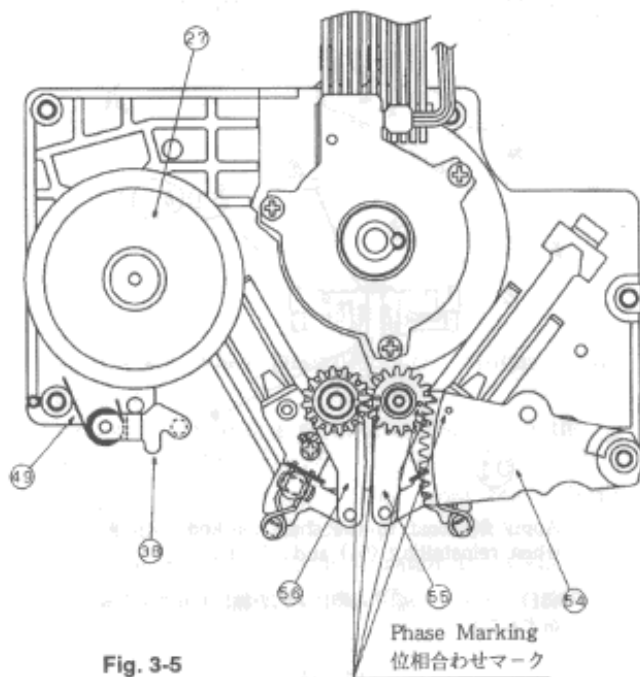

Fig. 3-5
- 1) ③c ワッシャを外し、⑰ Loading Lever Blockを外す。
- See that the phases of the Gear Arm, L1 (IN) Arm, and L1 (OUT) Arm are matched with each other, as shown in Fig. 3-5.
- Gear Arm, L1 (IN) Arm, L1 (OUT) Armの位相はFig. 3-5を参照。